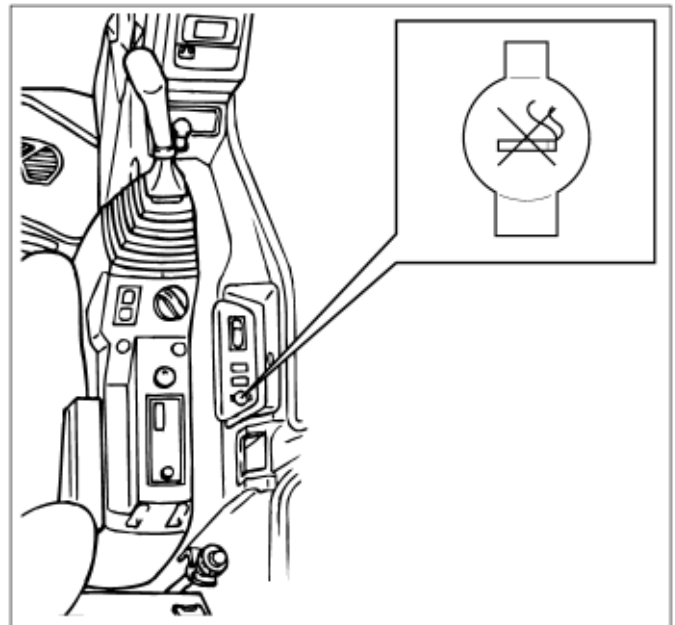

FIGURE 3.37.a
1. Engine emergency stop knob – FIGURE 3.37.b